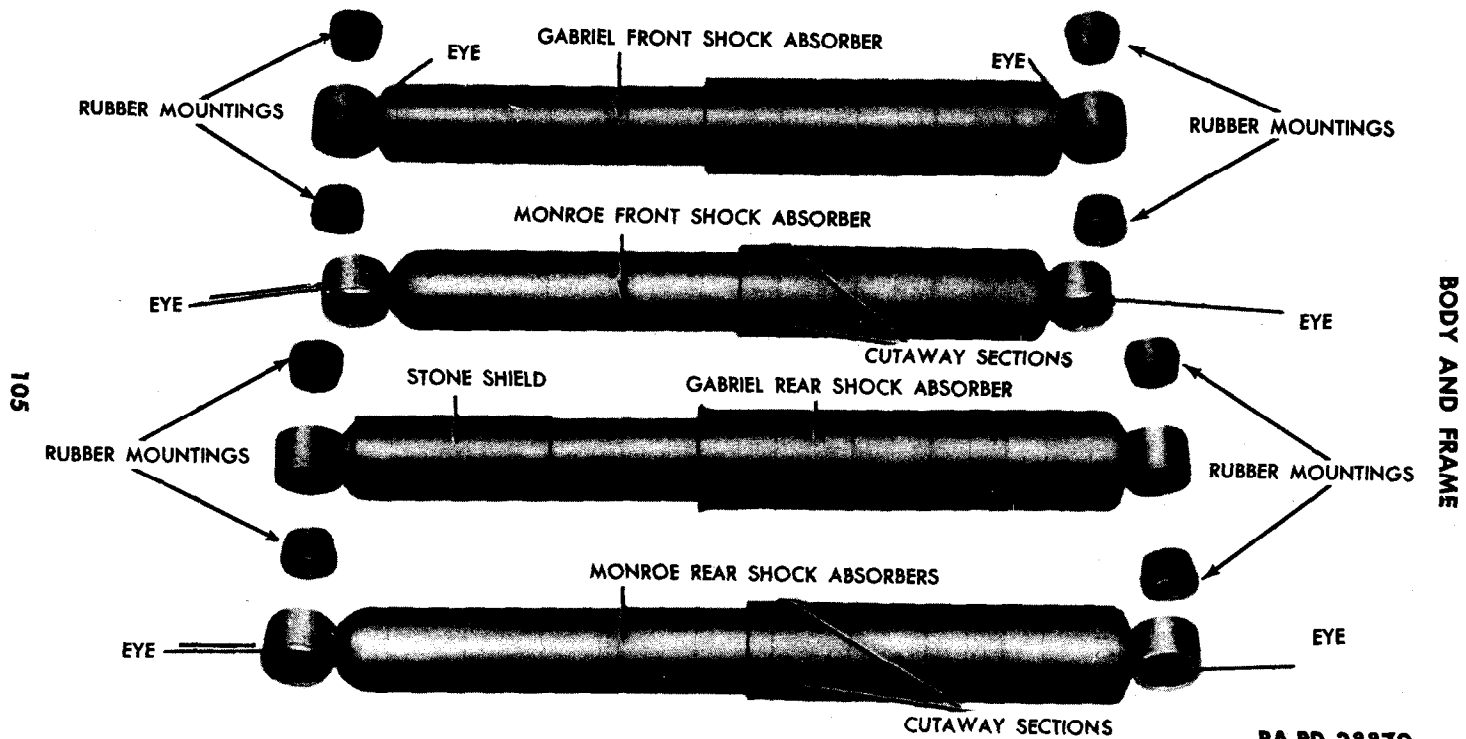

Figure 87 — Monroe and Gabriel Shock Absorbers
(1) **DESCRIPTION.** The Gabriel shock absorbers used on some of the vehicles can be distinguished from the Monroe type (par. 38) in that the upper tube has no cutaway section (fig. 87). Four of these direct-acting shock absorbers are used, one at each side of each axle. These shock absorbers are sealed at the factory with the proper amount of fluid and are non-refillable. These shock absorbers are adjustable (subpar. e, below).
d. **Installation** (figs. 35 and 77). Insert a rubber mounting in each side of the upper and lower eye of the shock absorber. Place the shock absorber onto the spring seat plate and onto the bracket on the frame. Install the flat washer and cotter pin that secure the upper end of the shock absorber to the frame. Install the flat washer and cotter pin that secure the lower end of the shock absorber to the spring seat plate. Install the rear shock absorbers so that the stone shield (fig. 87) on the shock absorber is facing forward on the vehicle.
(1) DESCRIPTION. The Monroe type shock absorber used on some of the vehicles can be distinguished from the Gabriel shock absorber by the cutaway sections on the outer shell of the shock absorber (fig. 87). Four of these direct-acting shock absorbers are used, one on each spring. These shock absorbers are refillable (subpar. e (5), below) and can be disassembled for repairs. They are also adjustable (subpar. e (3), below).
(2) DATA.